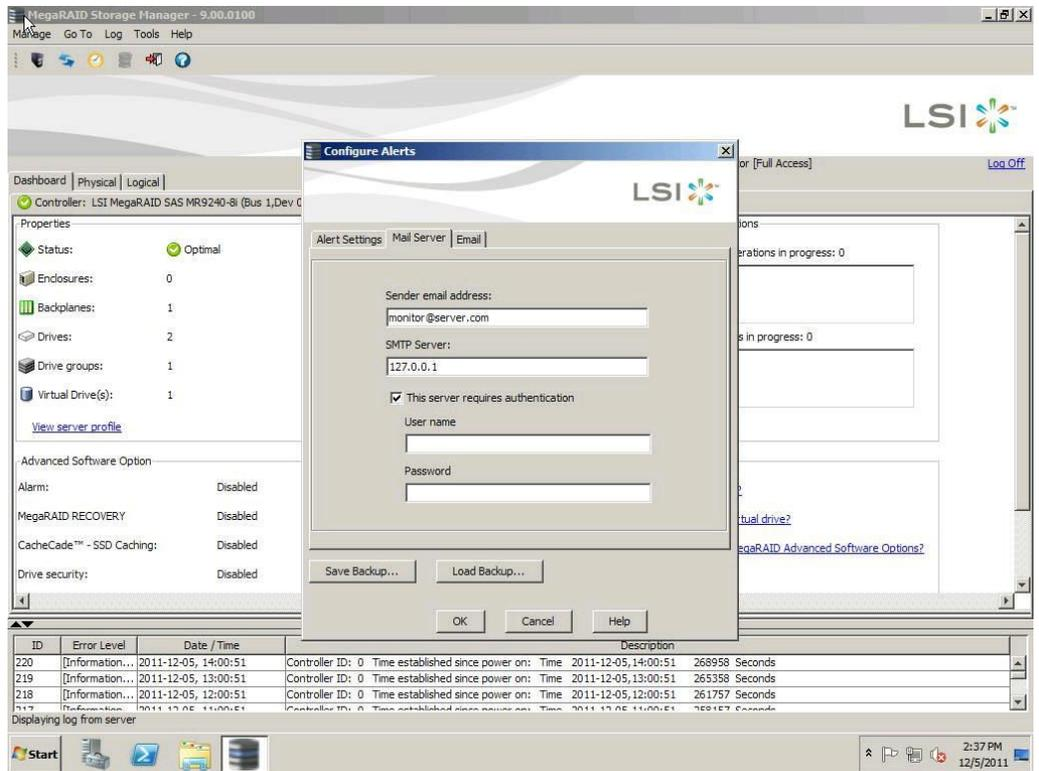

Figure 14. Entering your mail server information to configure alerts.
5. Next, select the Mail Server tab, and enter your mail server information as well as authentication credentials for SMTP if applicable. (See Figure 14.)